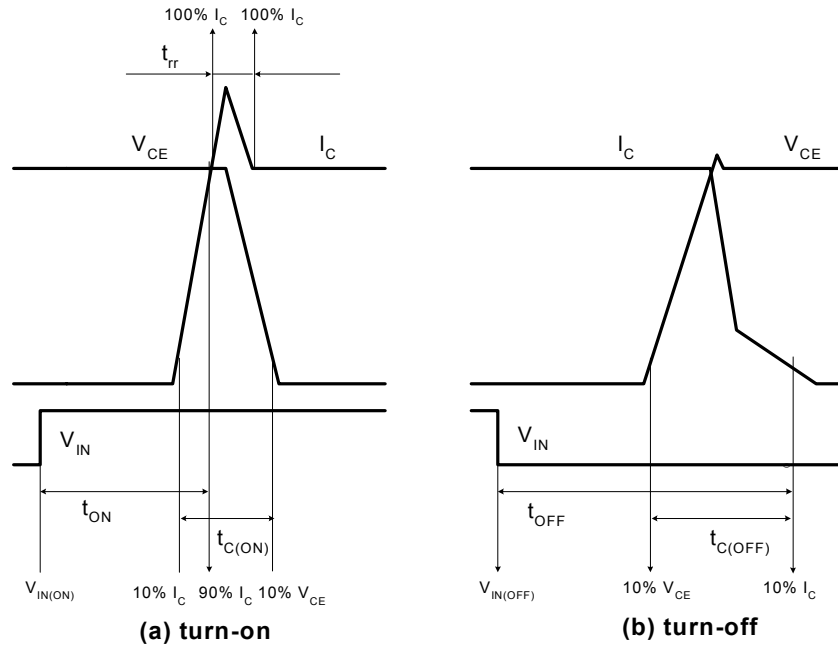

Figure 4. Switching Time Definition
3. t_{ON} and t_{OFF} include the propagation delay time of the internal drive IC. t_{C(ON)} and t_{C(OFF)} are the switching time of IGBT itself under the given gate driving condition internally. For the detailed information, please see Figure 4.